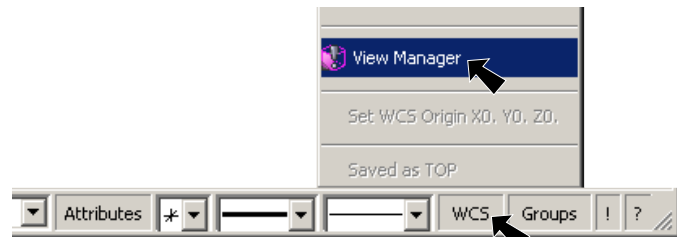

Fig. 66
Step 2. Click **WCS** in the Status Bar at the bottom of the screen and **View Manager** from the menu, **Fig. 66**.